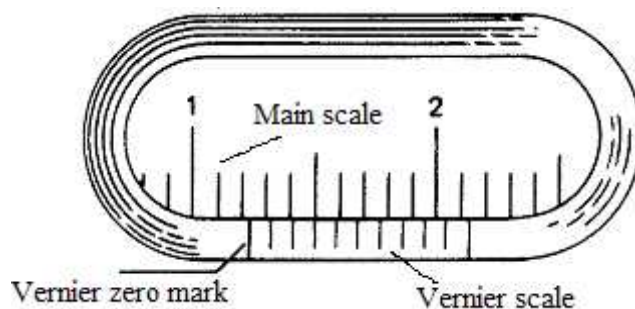

Figure 3. An example of calculating the least count, and reading the Vernier scale on a Vernier caliper.
- A measurement is made by closing the jaws on the object to be measured and reading where the zero mark on the Vernier scale falls on the main scale (figure 3). In figure 3, the first two significant figures are read directly from the main scale. The Vernier zero mark is past the 2-mm line after the 1-cm major division mark, so there is a reading of 1.2 cm (12 mm).